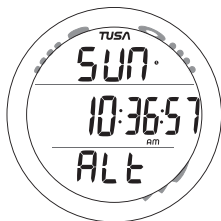

Fig. 8 - ALTERNATE TIME
**Watch Alternate Time** (Fig. 8), which is set by Hour Differential, is the current Time displaying Am (or Pm) at a remote travel location. Upon arrival at the location, Alternate Time can be interchanged with Main Time to make it the Local Default Time while visiting the travel location.